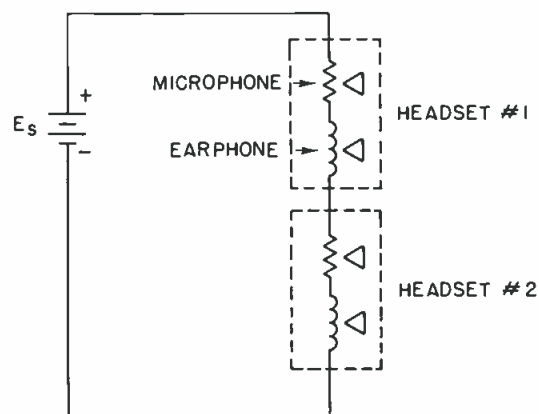

Figure 1. A series intercom connection.
**T**HE TELEPHONE COMPANY headset—boom mounted carbon microphone and single dynamic earphone—is convenient and commonly used in intercom systems. Where only a few headsets are involved, the simplest scheme is to wire the headsets and microphones in series, and power the circuit from a source of d.c., FIGURE 1.